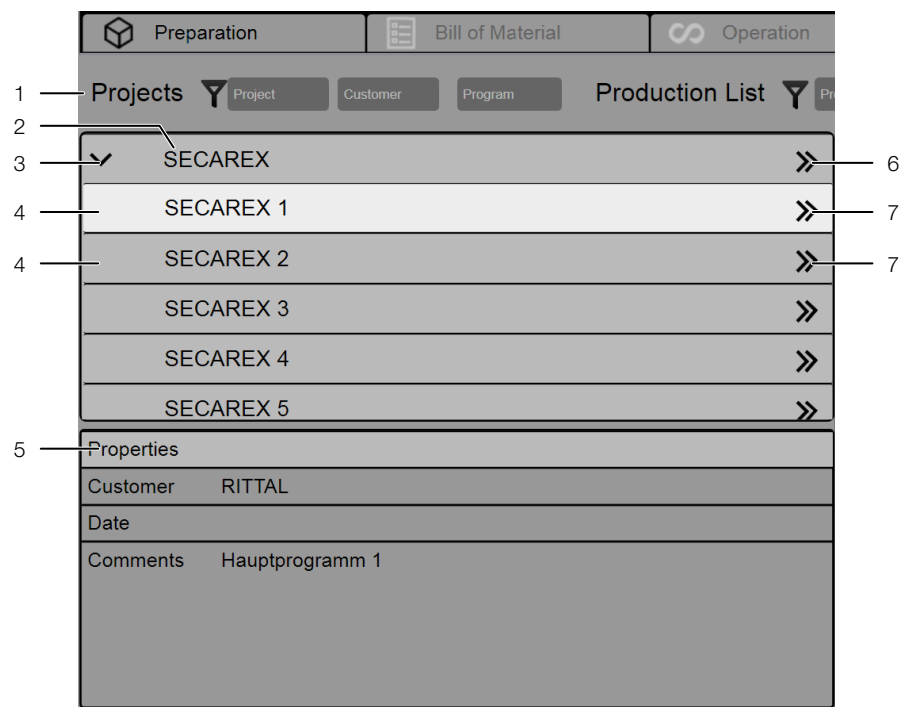

Fig. 8: "Preparation" tab – Projects
- Press the ">>" button (fig. 8. item 6) behind the project name.
- Press the ">" button (fig. 8. item 3) in front of the project name.
- Press the ">>" button (fig. 8. item 7) behind the name of the desired main program.
Pressing a ">>" button (fig. 8. item 7) returns the workpieces to the production list. You can also group the workpieces of several main programs in a production list.